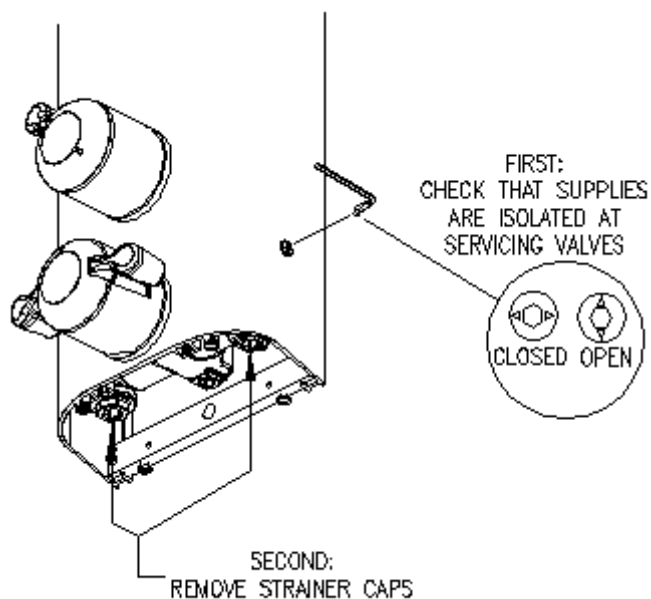

Fig.5
Access to the flushing points is gained from underneath the casing through the lower end cap. Isolate the water using the low-level servicing valves located on the side of the panel (Figure 5) using a 4mm hex key. Remove the strainer cap with the strainer basket and screw in the flushing adapter. Place the end of the flushing hose in a drain or container and turn on the supply to flush AT FULL BORE until any pipework which has been worked on is cleared. After flushing, remove the flushing adapter and replace the strainer cap. Repeat for both hot and cold supplies. See Figures 5 and 6.
Ensure that the TSV-MDV on/off control is closed (in the central, 12-o'clock, detent position) and open the supplies. Open the servicing valves on the panel casing (See Figure. 5). Adjust the temperature control and check for any water leaks upstream of the thermostatic valve. Make good any leaks found. The valve is now ready for commissioning.
2.5.1 Finally, check the thermal shut-off facility of the TSV-MDV by performing a Cold Isolation Test (sometimes colloquially called a “fail-safe” test) as follows. With the shower running full, close the cold (i.e. right side) servicing valve. [The Servicing Valve is closed when the arrows are in the horizontal position, and open when they are in the vertical position: see Figure. 5]. If there is any flow after 5 seconds, this must amount to no more than 120ml in 60 seconds of collecting. If there is more than this amount, find possible corrective actions in the “Maintenance” section below. If the Cold Isolation Test is satisfactory, restore the supply and note the final stabilised temperature in the commissioning log. This should be within 2°C of the original temperature, and must not exceed 43°C. Generally, the mixed water temperature should not rise by more than 2.9°C during this cold-water isolation test. Record the result of this on the attached commissioning sheet.